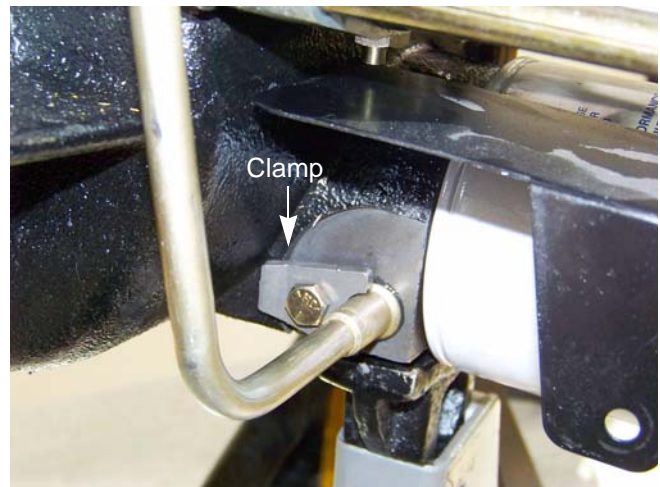

Figure 5.33
4. Remove the hex cap screw securing the hydraulic pick-up tube clamp and tube to the right transmission housing using a 7/16" wrench. See Figure 5.33.